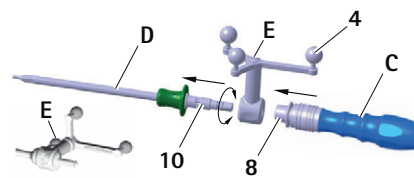

Fig. 8 Mounting the reference star unit ("calibration with ICM 4") and S4C handle (FW067R or FW165R) onto the S4C screwdriver
- ▶ Release locking sleeve 8, see Fig. 8.